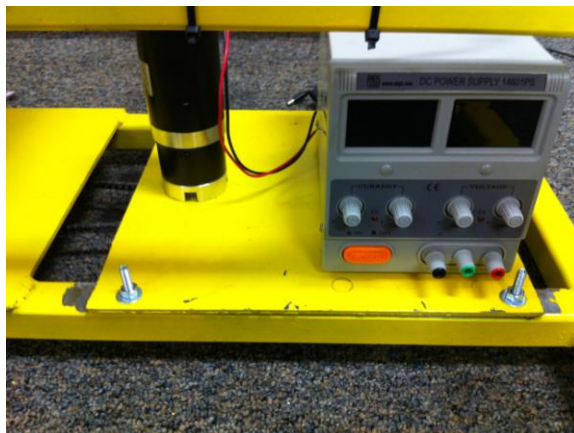

Figure 39 – Power supply for motor / motor controller
- a. Install the power supply for the motor and motor controller in the empty space next to the motor, as shown in Figure 39.